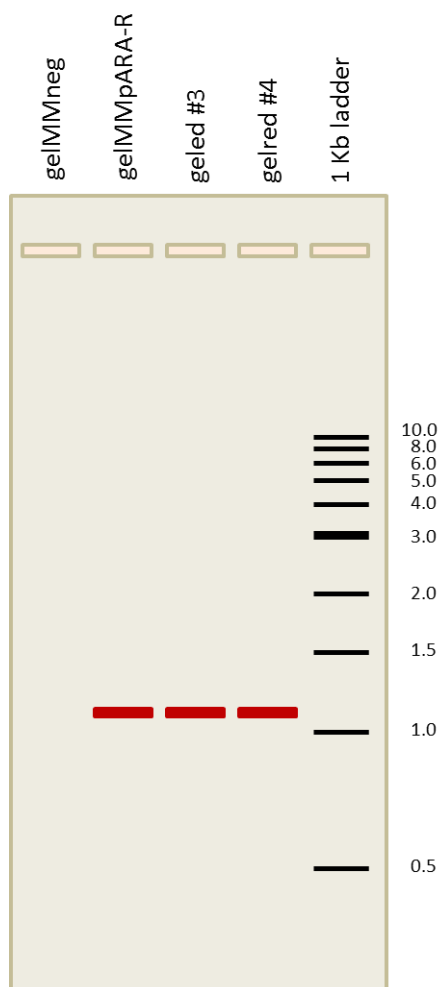

Figure 7a.2 The DNA ladder diagram completed with the expected sizes of DNA bands.
- The DNA ladder serves as a standard because it contains a mixture of DNA molecules of known sizes. By running your samples and the DNA ladder side by side in your gel, you can estimate the actual size in base pairs of unknown DNA molecules. The DNA ladder diagram below shows 10 DNA bands of known sizes. Their sizes are given in kilobase (kb) pairs. 1 kb is 1,000 base pairs (bp). On the diagram predict the positions of DNA bands produced from the gelMMpARA-R and gelred tubes by drawing them on the DNA Ladder Diagram (figure 7a.3).
The DNA ladder diagram is reproduced in Figure 7a.2 with the expected sizes of the DNA bands.